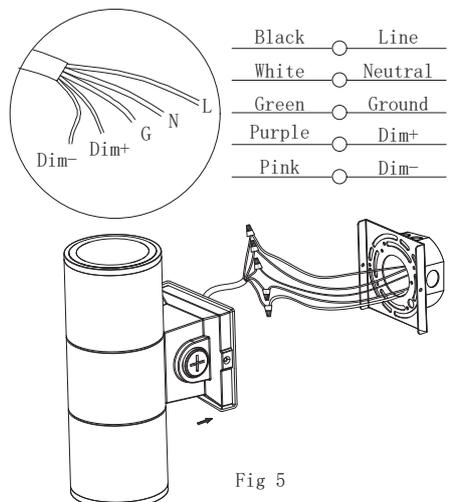

Fig 5
5. Connect the corresponding terminals according to the wiring diagram, connect L, N, and ground wires properly. (Fig 5)